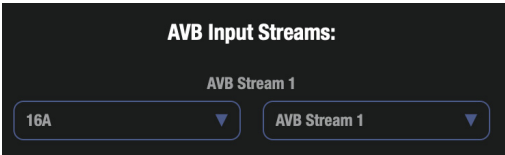

Figure 9-2: Connecting an input stream.
- 2 For 16A #2 (the unit connected to #1 with a network cable), go to the Device tab *AVB Input Streams* section and choose 16A #1 as a source device for one of the streams and then choose a *Source Stream* from it (Figure 9-2 on page 65).